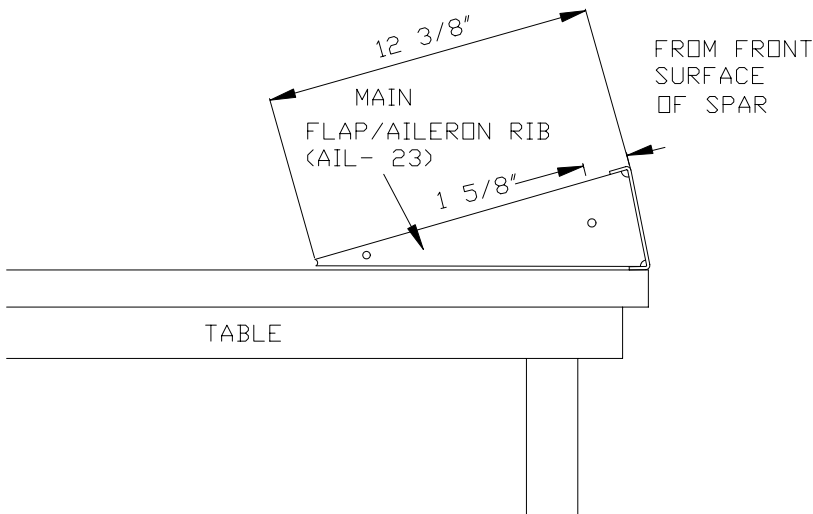

Figure 7.2.6
- 14) The Main Aileron Ribs may need to be trimmed. Check Figure 7.2.6 for the correct dimension.
- 16) Cleco the Leading Edge Ribs, the Spar, the Spade Ribs and the Main Aileron Ribs together and drill out all #40 holes to #30. It helps if you use an extra long #30 drill bit. Figure 7.2.6.